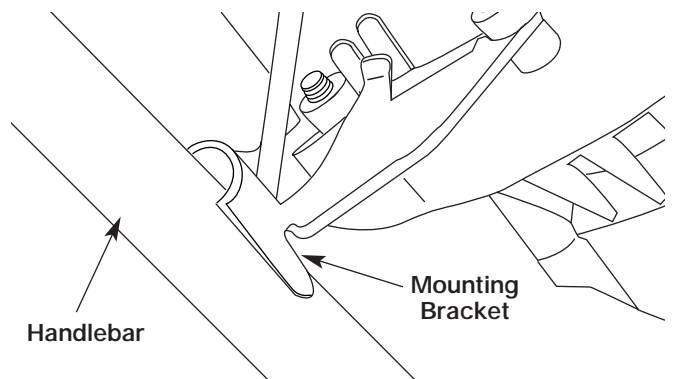

Figure 6
4. One at a time, hold a hex nut in the bottom clamp recess with a finger and install a screw through the clamp assembly. Start screw with a large Phillips screwdriver. Do the same with the other three (3) nuts and screws. Do not tighten until you make the handle adjustment.
5. Position the two (2) handlebar clamps with one on each side near the top of the handlebar. Swing the handlebar up until it sets to the outside of the two mounting brackets on the engine. See Figure 6.